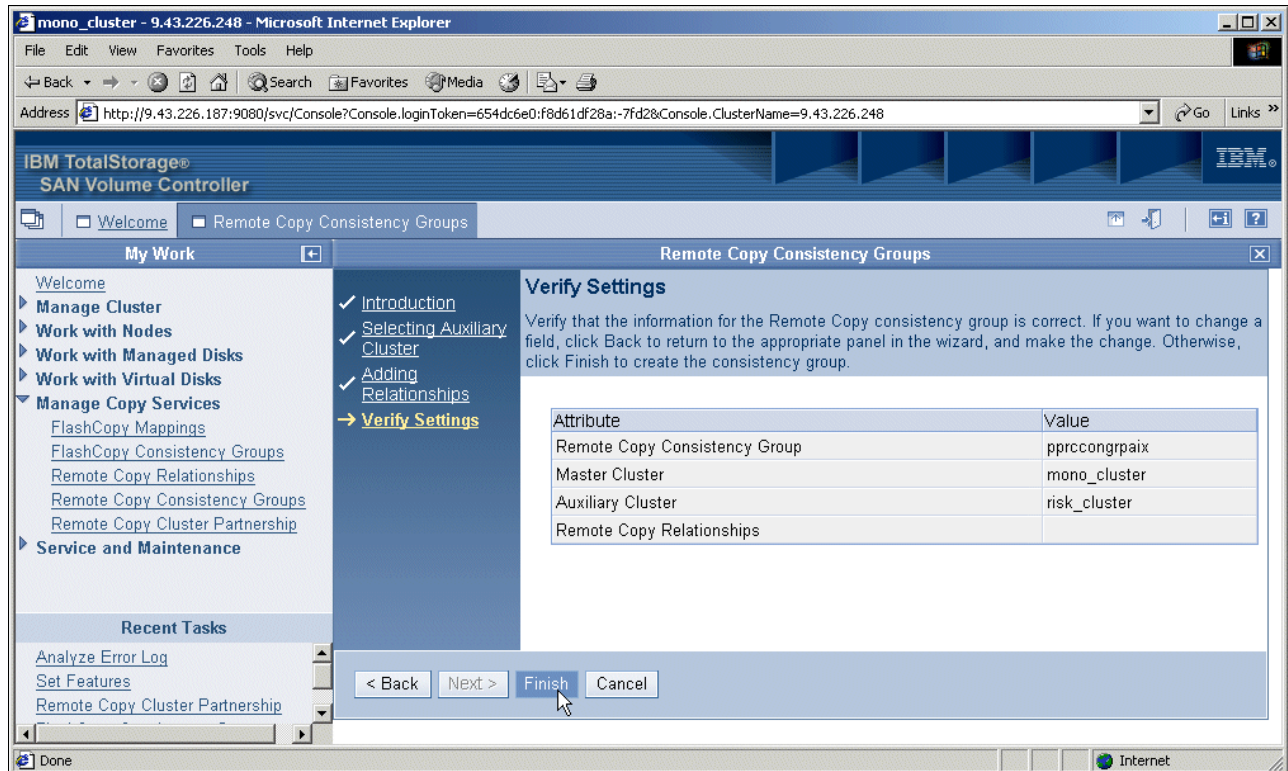

Figure 11-15 Verify Settings
7. On the Verify Settings panel (Figure 11-15), verify your settings and click **Finish**.